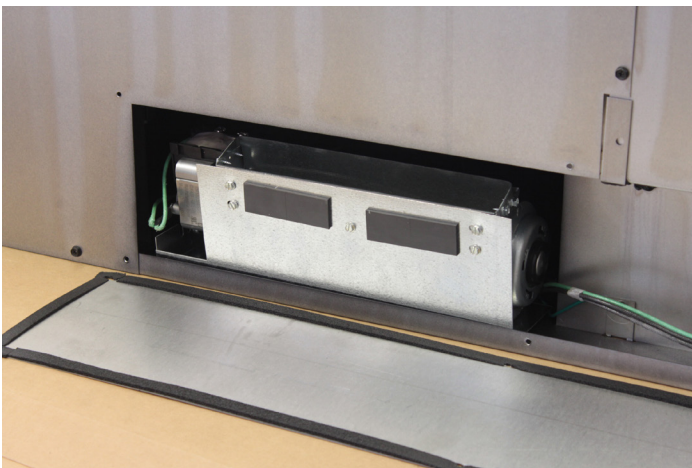

Figure 5
7. Finish installing the left blower so that the left edge of the blower base bracket is about even with the left edge of the access opening. Route the wiring away from the blower wheel. **See Figure 5.**